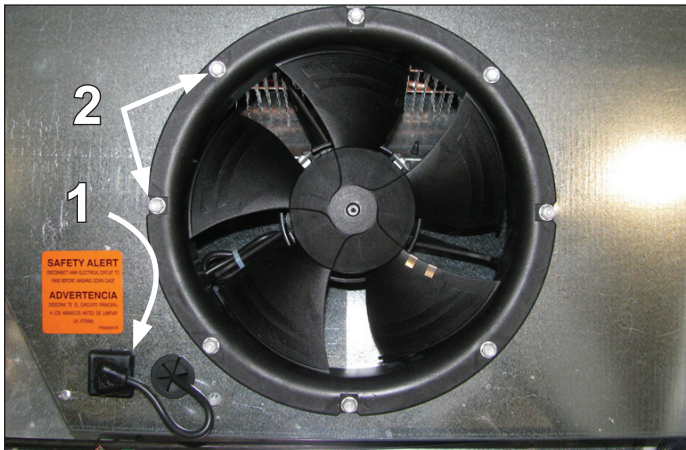

Fig. 18 Fan basket
1. Unplug the fan motor (Fig. 18) from the receptacle on the exterior of the fan plenum. Push the power cord back through the plenum opening.